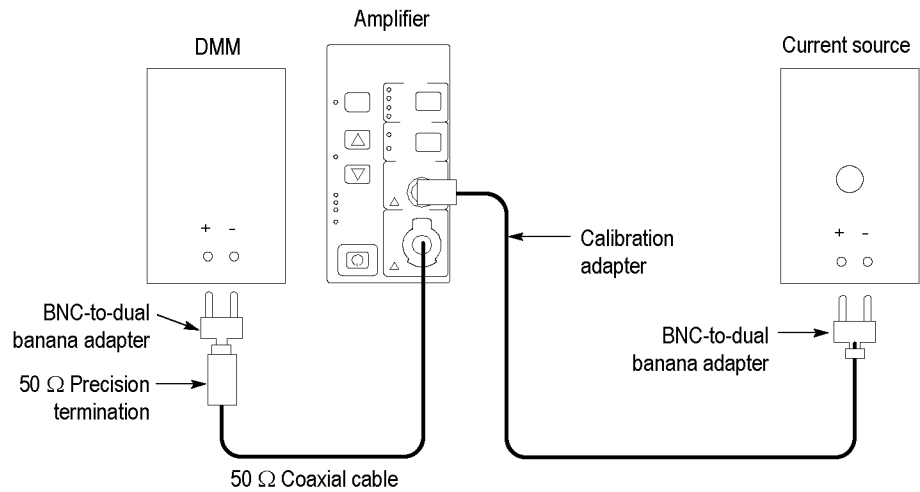

Figure 13: Amplifier adjustments
1. Set up the circuit shown. (See Figure 13 on page 47.)